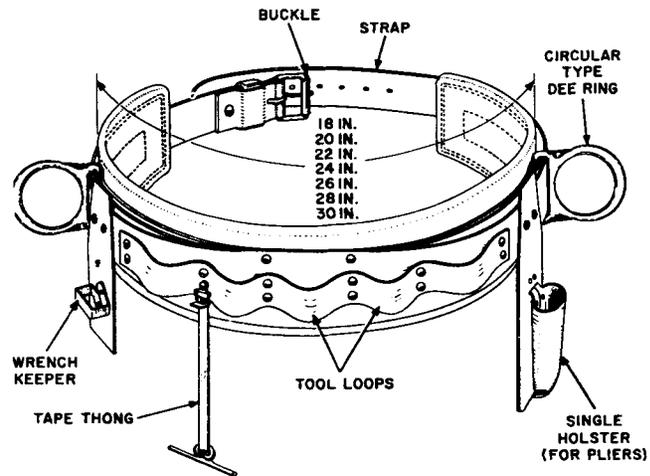

Fig. 2—Cushion Body Belt
3.05 The Cushion Body Belt (Fig. 2) is intended for the use of workmen who require a cushion-type belt. The Cushion Body Belt is made of leather and is equipped with drop-forged, circular-type D-rings and buckle, a metal wrench keeper, a tool holster, a tape thong, and leather tool loops. The 5-inch wide body section is made of a single piece of leather, folded to form a cushion with rolled edges and no exposed inside rivets. The D-ring strap is free to slide over a range of about 4 inches. The belt is always put on with the buckle toward the wearer's left. Belts are furnished either as RIGHT or LEFT belts. A RIGHT belt is shown in Fig. 2. In a LEFT belt, the positions of the holster and wrench keeper are reversed. Belts are furnished equipped with either a single holster (for pliers) or an offset double holster with scissors pocket (for pliers, rule, and scissors). Screw-type rivets are used for fastening the holster and wrench keeper to the buckle strap, thus permitting replacement of these attachments as well as conversion of belts from RIGHT to LEFT and vice versa.